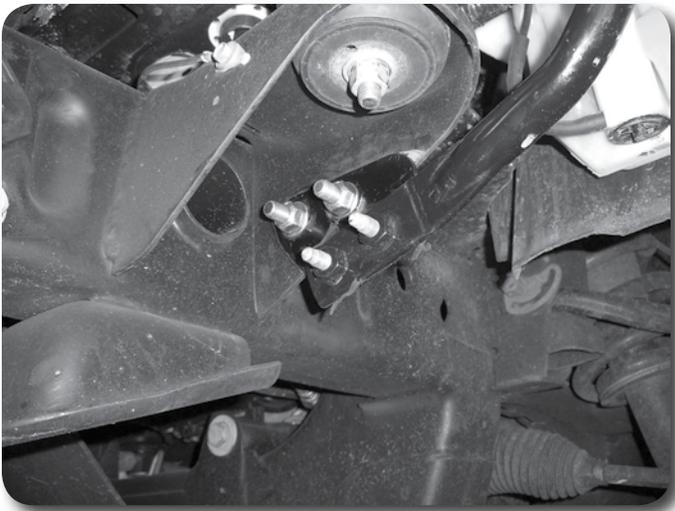

Figure 21
47. Attach the factory outer bumper support to the relocation brackets with the factory bolts. The support should mount to the front surface of the relocation bracket. **Figure 21** Torque all 7/16" and factory bumper support hardware to 40 ft-lbs.